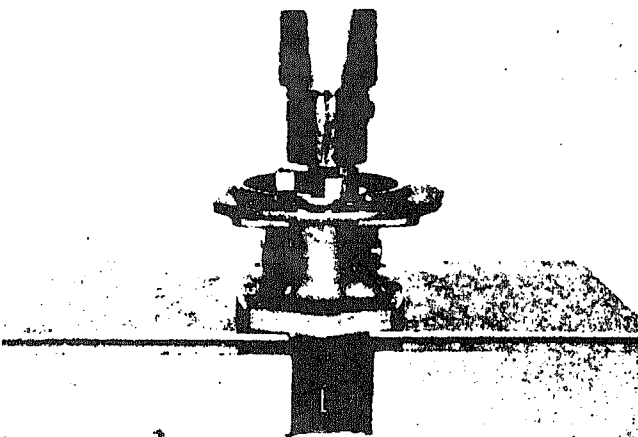

Fig. 506-3 Press drive gear assembly from front cover
7. Install a longer capscrew in place of drive coupling retainer capscrew; press on capscrew to press drive gear assembly from front cover. Fig. 506-3.